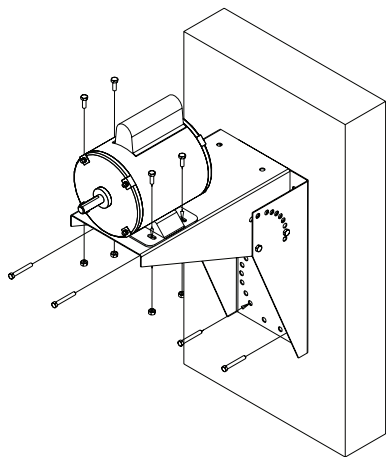

Figure 5 — Bracket Mounting (Circulator Head Not Shown)
5. Mount bracket to the wall as shown in Figure 5, page 4. Use appropriate hardware (supplied by others).